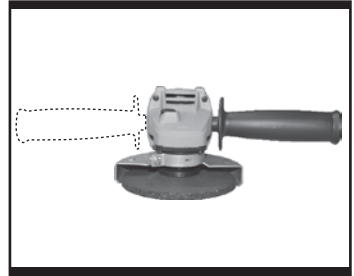

Fig. 1
Screw the auxiliary handle (4) on the right or left of the machine head depending on the working method. (See Fig.1)